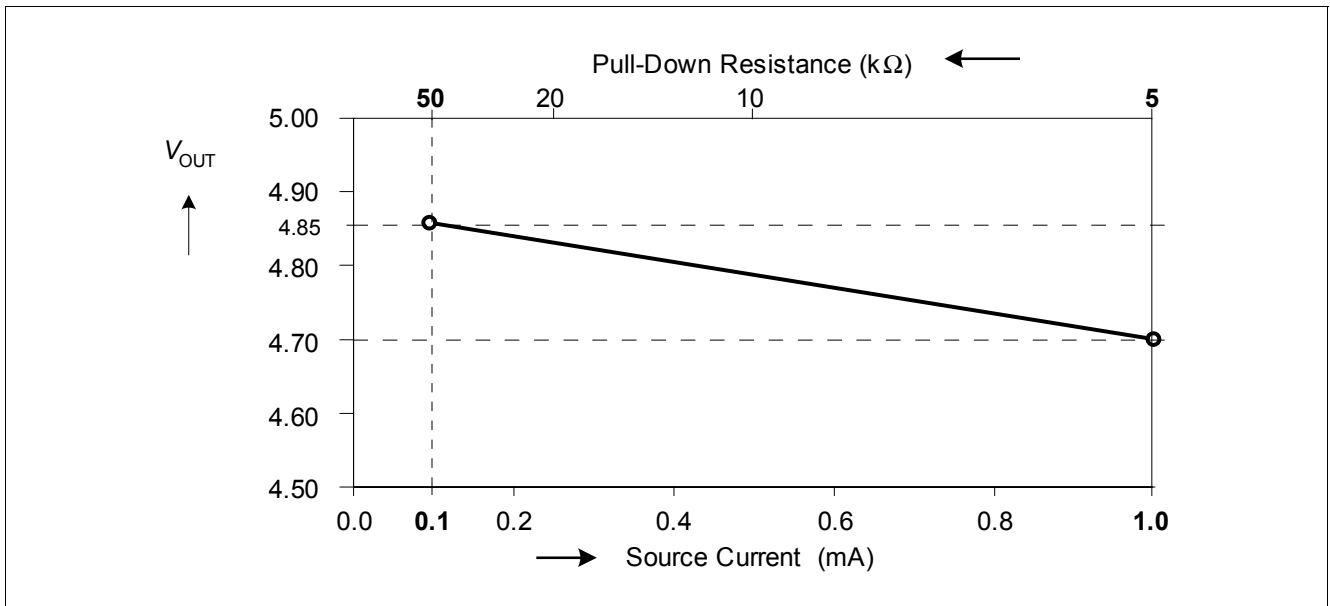

Figure 4 Maximum Output Voltage Limit at Maximum Rated Pressure with Pull-Down Load
4) See: Figure 4 “Maximum Output Voltage Limit at Maximum Rated Pressure with Pull-Down Load” on Page 14